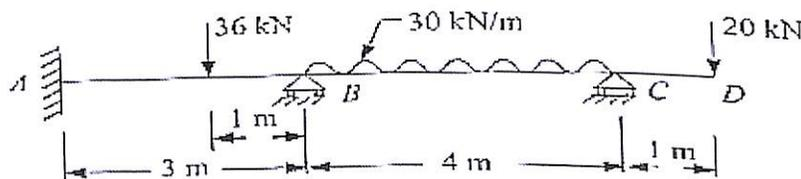

Fig Q4
- Q4 Analyse the beam shown in the figure Q4 using slope deflection method and draw SFD and BMD 20